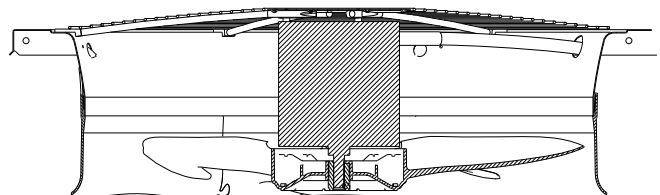

Fig. 33 — Condenser Fan Adjustment
2. Remove condenser-fan assembly (grille, motor, and fan). See Fig. 33.